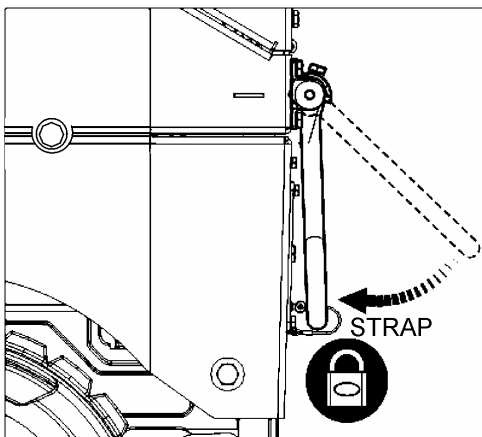

Figure 2. Locking Emergency Stop Bumper
2. Lock emergency stop bumper (Figure 2).